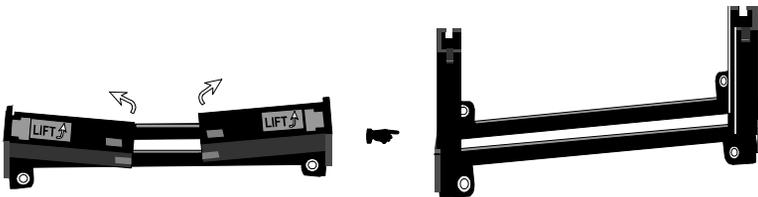

Figure 6
- 1 First, please refer to figure 6 below, and follow the direction to lift up the fixed foldable pentium® II/III Retention Mechanism. This pre-installed device is designed for you to install Pentium® II/III CPU more easier and to avoide any damage on the board due to overtightening the four screws.